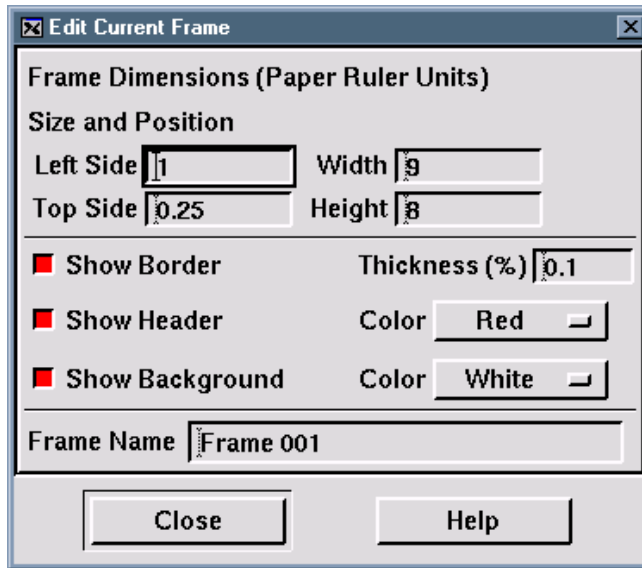

Figure 3-1. The Edit Current Frame dialog.
1. From the Frame menu, choose Edit Current Frame. The Edit Current Frame dialog appears as shown in Figure 3-1. (You can also get to this dialog by double-clicking on the header or border of the current frame.)